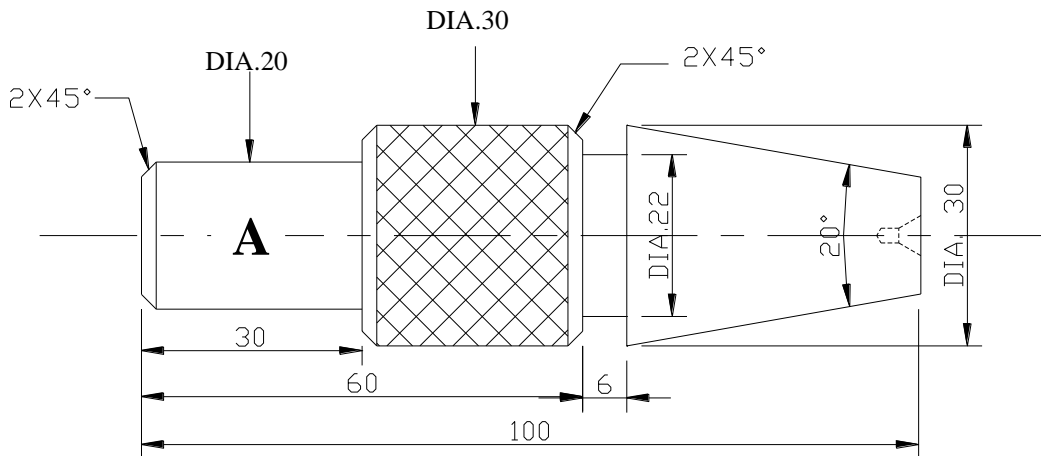

**Figure 2**
2. Figure 2 shows a threaded hole in a component. The hole was threaded using M10 X 1.50 mm taps. While carrying out the threading operation a tap broke in the hole and had to be removed before the job could be completed.